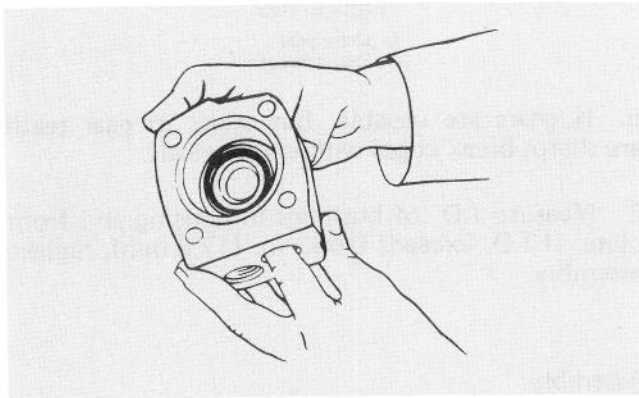
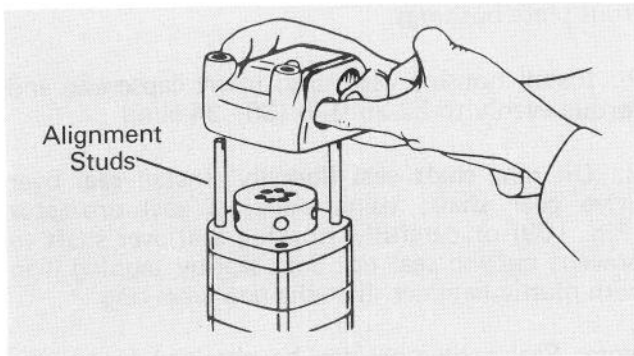

Figure 104
Figure 105
19. Insert your finger through port of housing. Apply pressure to side of balance ring as shown in Fig. 104. Hold ring in position until valve housing is in place. Install valve against valve plate as shown in Fig. 105.